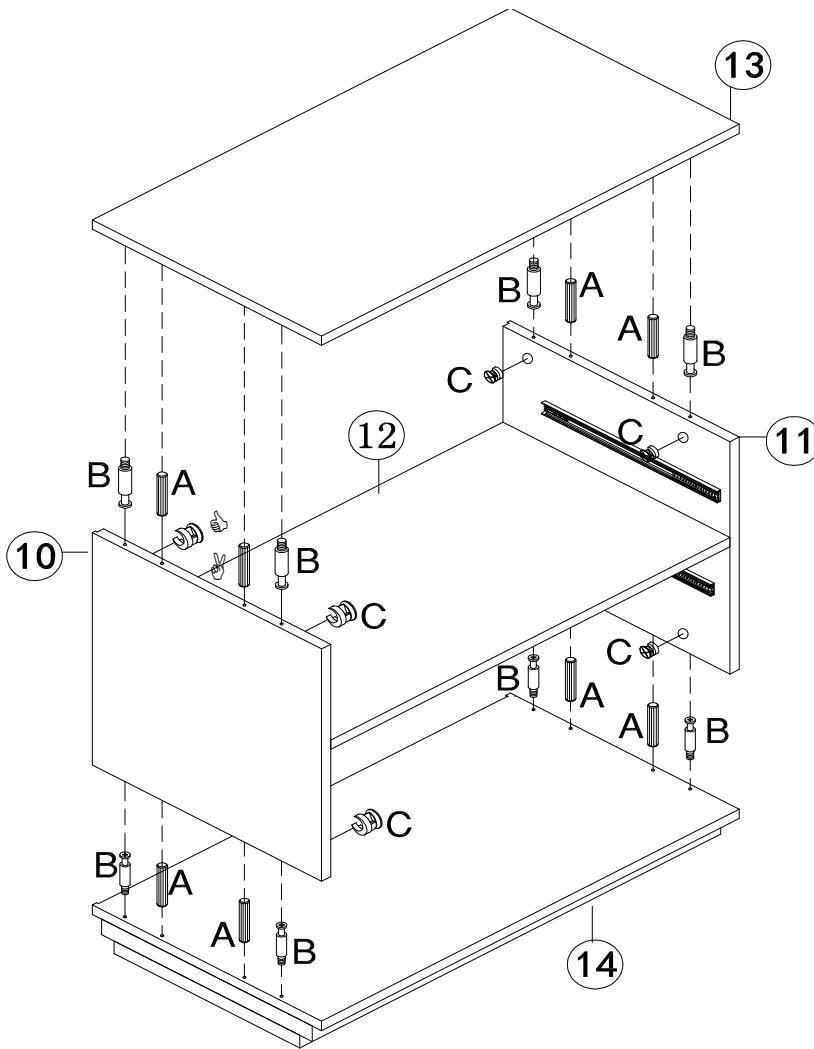

Figure 5
Attach Back Panel (15) to assembled unit from Figure 5 with Screws (E).